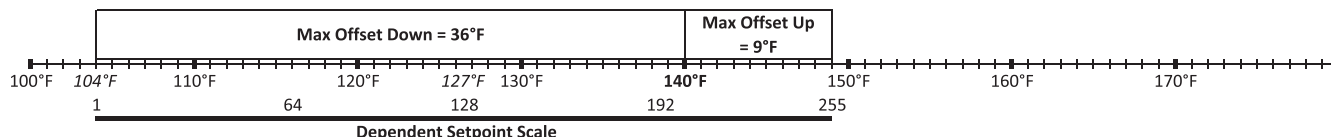

Figure 8.8: Dependent Setpoint
f. Figure 8.8 illustrates the range defined by the Max Offset Down and Max Offset Up parameter.